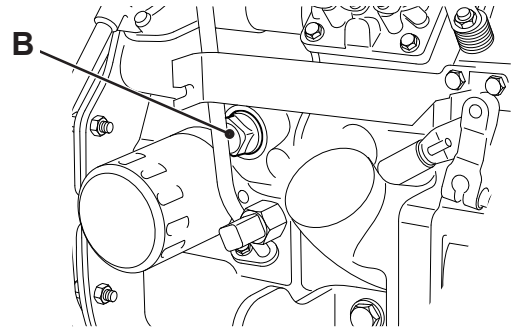

Fig 12.
- 3 Undo the speed plug **B** on the cylinder block and let the coolant drain out. → Fig 12. \(□ 3-31\). Remove the bottom radiator hose **C** by unfastening at clip **D** and let the coolant drain out. Make sure the drain hole is not blocked.